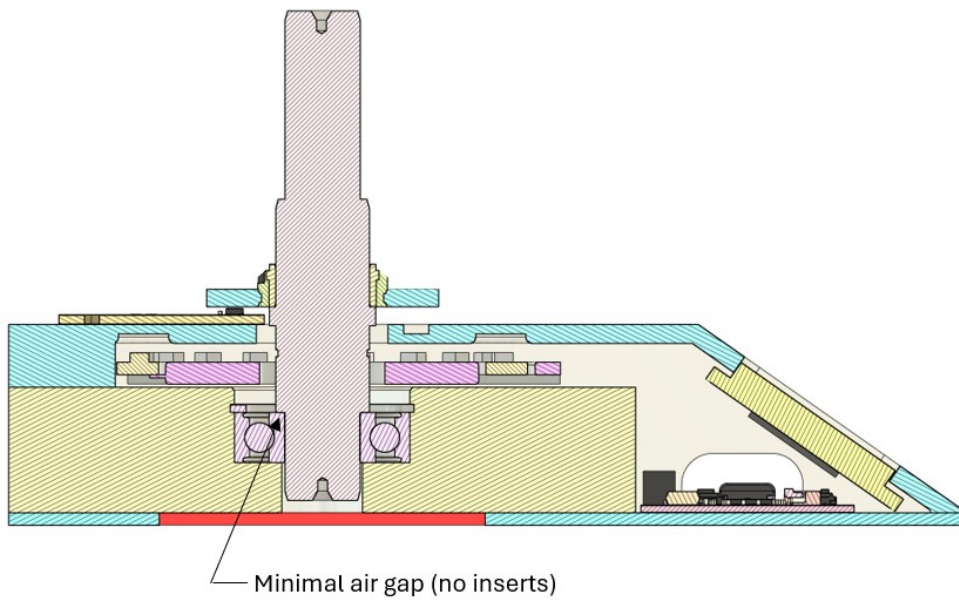

Figure 16: Minimal air gap: Distance holder removed
- Bring the stray-field magnet close to the AM Encoder (see figure 16).